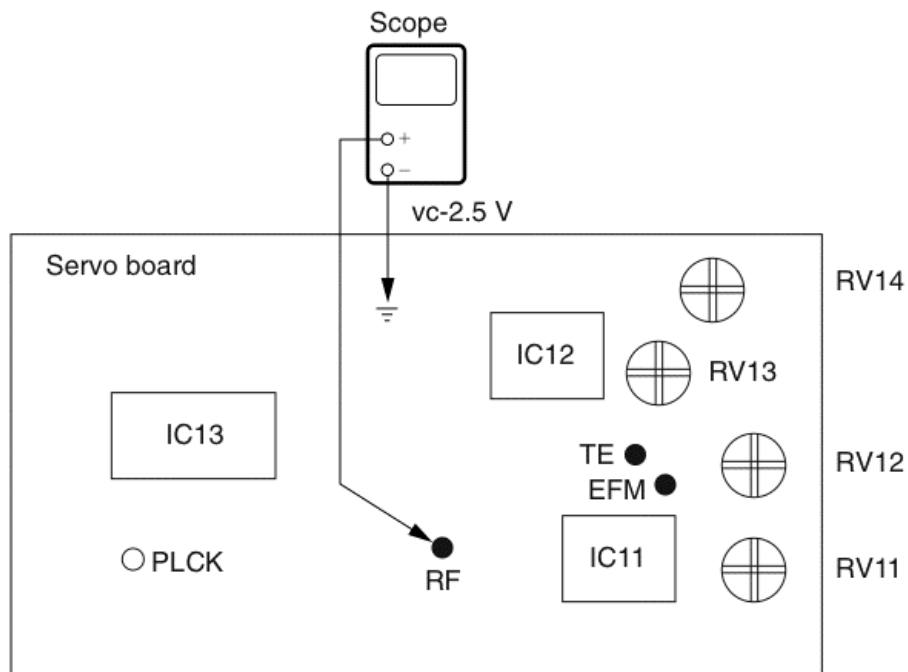

FIGURE 28-16 Connecting the oscilloscope to the RF connection and ground in an auto CD player.
- 3 Adjust RV12 so that the scope waveform eye pattern is good. The diamond shape in the center should be clearly distinguished (Fig. 28-16).